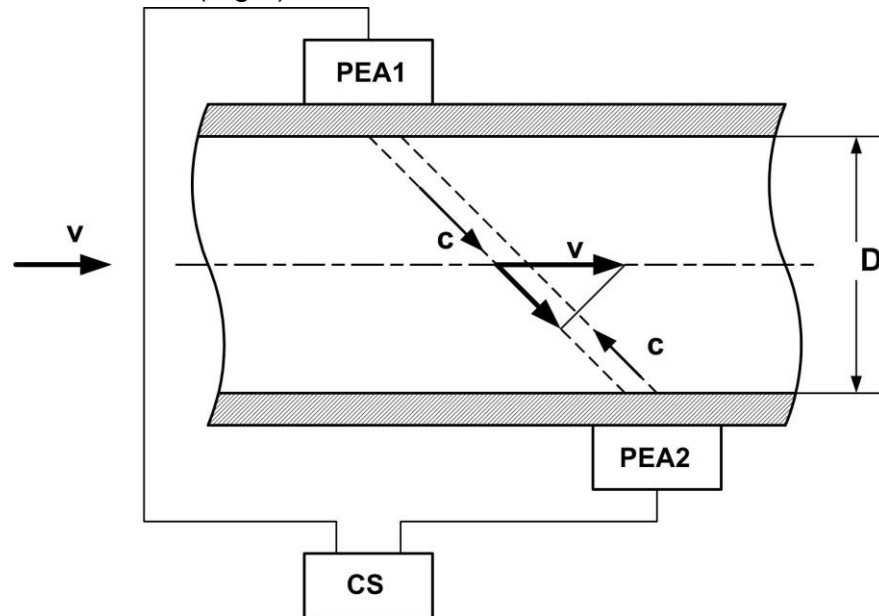

Fig.1. Diagram showing USS propagation
1.5.1.2. The CS generates electric sounding pulses which alternately come to PEA1 and PEA2 (Fig.1).